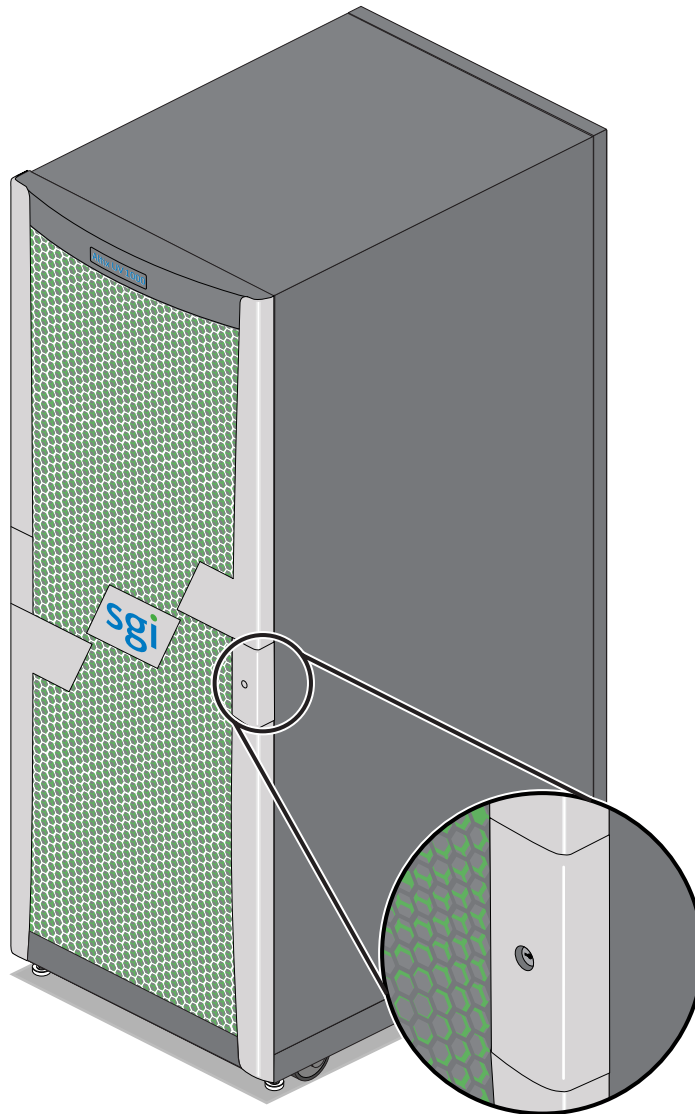

Figure 4-2 Front Lock on Tall (42U) Altix Rack
At the time this document was published only the tall (42U) Altix rack (shown in Figure 4-2) was available from the SGI factory for use with the Altix UV 1000 systems. Other racks may be available to house the system IRUs, check with your SGI sales or service representative for information.
- **Front and rear door.** The front door is opened by grasping the outer end of the rectangular-shaped door piece and pulling outward. It uses a key lock for security purposes that should open all the front doors in a multi-rack system (see Figure 4-2 on page 52).